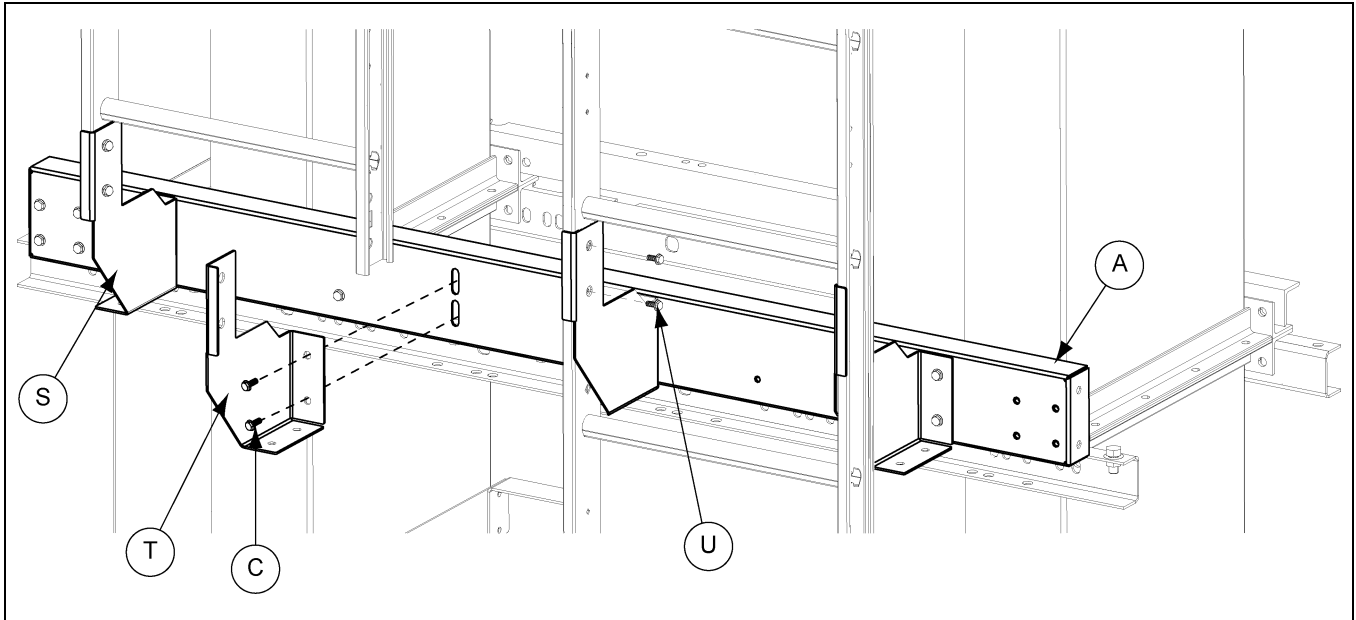

Figure 7N
10. Attach ladders to ladder support brackets using 1/2" x 3/4" hex bolts. *(See Figure 7N.)*